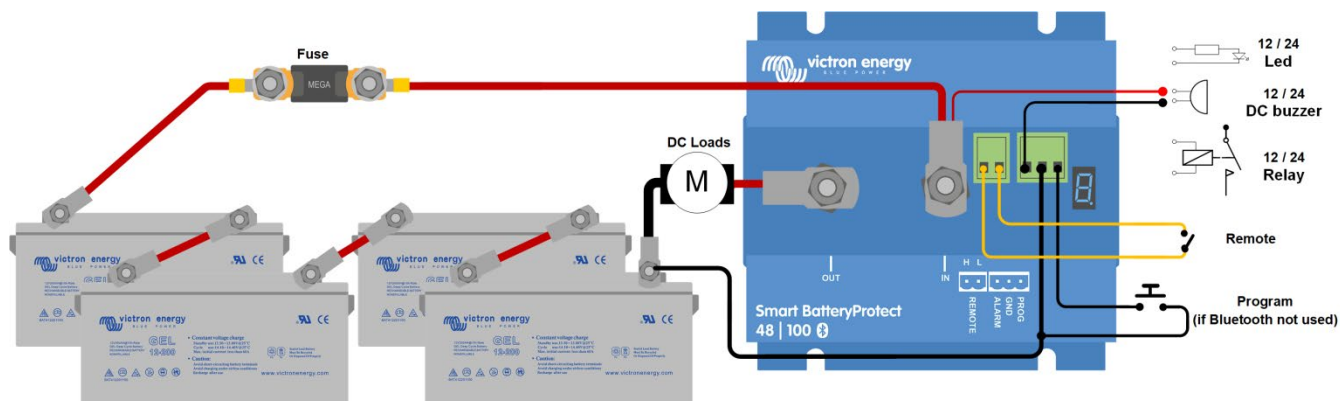

Figure 1 Connection diagram of the SBP 48|100
8. A remote on-off switch can be connected between Remote H and Remote L (see figure 1). Alternatively, terminal H can be switched to battery plus, or terminal L can be switched to battery minus.
9. A buzzer, LED or relay can be connected between the alarm output and the battery plus (see figure 1). Maximum load on the alarm output: 50 mA (short circuit proof).